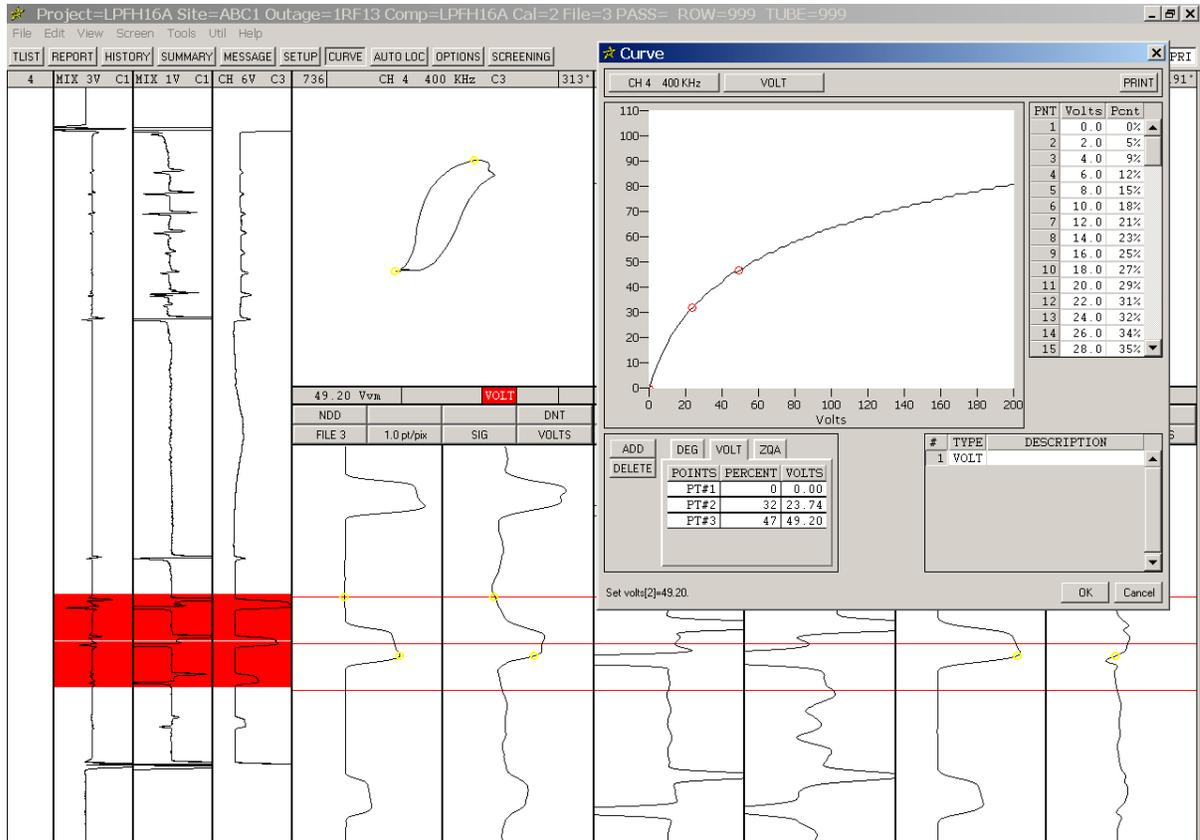

Figure 1-23. Analysis Screen - Curve Dialog – Completing a Volts Curve
- STEP 33:** Click in the *Volts* field for *PT#3* on the *VOLT* table. As shown in Figure 1-23, the *V_{vm}* measurement (~49.20) for *CH 4* is automatically entered in the field and the final curve for this channel is displayed.